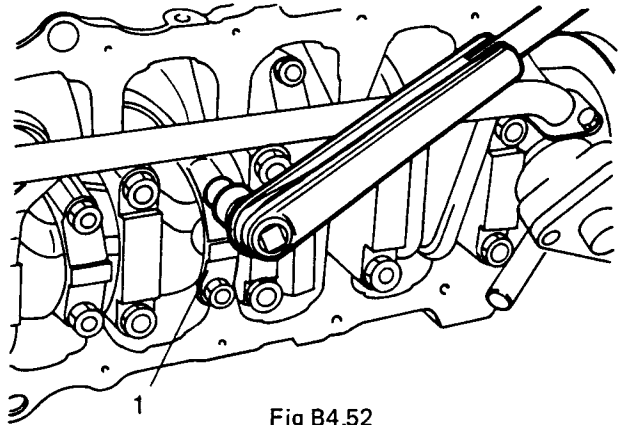

Fig B4.52
- (7) Refer to Fig B4.52. With the connecting rod positioned on the crankshaft, fit the connecting rod cap (1) and lower half bearing.
- (8) Fit the connecting rod bolts and tighten the nuts to 42 to 47 N.m.